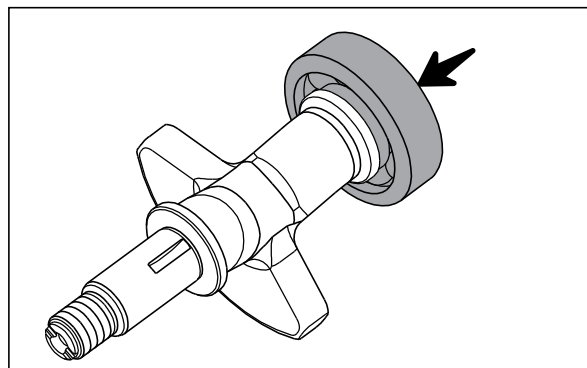

Fig. 3.185
- Inspect the balancer shaft bearing for free rotation and any abnormal noise. If found any replace the bearing. (Fig. 3.185)